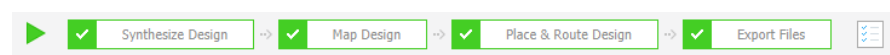

Figure 8.57. Successful Radiant Flow and Bitstream Generation
12. The compilation flow takes some time to complete. The .bit file is generated/updated in the project path (<root_directory>/soc_primary_gsr/ impl_1) after compilation is completed successfully as shown in Figure 8.57.